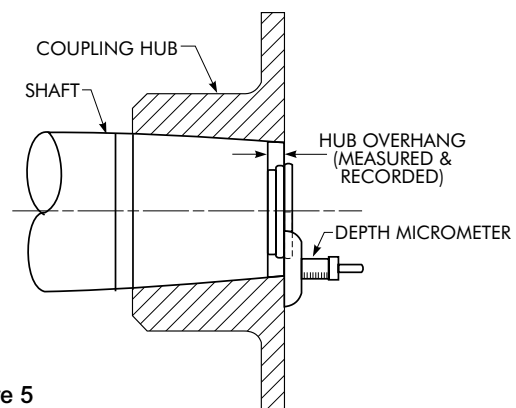

Figure 5
2. **Taper Bore with Key(s)** — Put the hub on the shaft without key(s) in place. Lightly tap hub with a soft hammer. This will assure a metal-to-metal fit between shaft and hub. This is the starting point for the axial draw. Record this position, between shaft end and hub face, with a depth micrometer. See Figure 5. Mount a dial indicator to read axial movement of the hub. Set the indicator to “0”. Remove hub and install